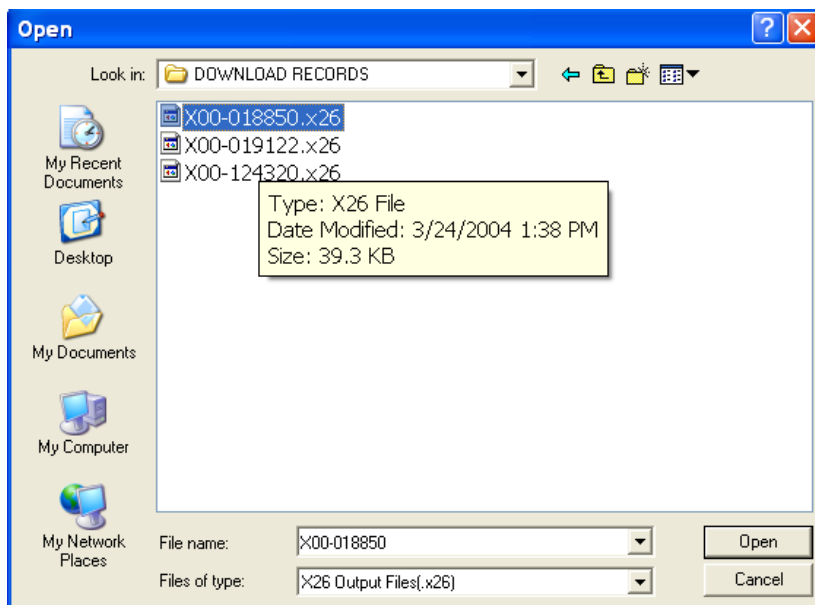

Figure 30
2. Select the desired file from the appropriate folder (Figure 30).